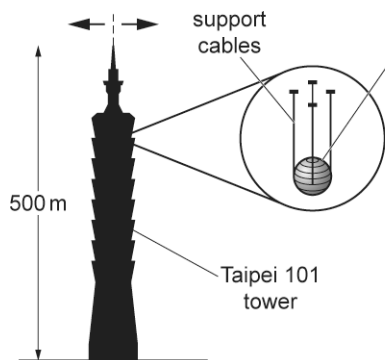

Fig. 2.1
52. The 500 m tall Taipei 101 tower is shown in Fig. 2.1. The tower has a massive sphere suspended across five floors near the top of the building to dampen down movement of the tower in high winds and earthquakes. The sphere is connected to pistons (not shown) which drive oil through small holes providing damping. The vibration energy of the sphere is converted to thermal energy.